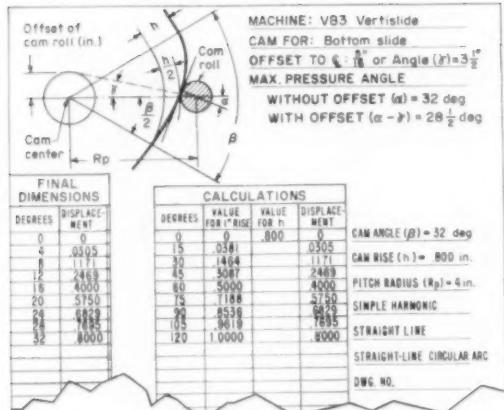

Fig. 7. Cam chart for four-slide forming operation shown in Fig. 3. This is used by cam designer.
where h = maximum stroke (inches), R_p = distance from the center of the cam roll to the cam axis at half stroke (inches), and f = cam factor. The dimensions β , h and R_p are graphically defined in the drawing at the top of Fig. 7.
Step 5. Tabulate final cam profile dimensions, *Fig. 7*, as a basis for layout and manufacture of the cam.
Step 2—Cam Data: The table in *Fig. 4* lists the slides in order of their motions. Except for the knockout pin, the maximum cam stroke h for each slide is taken from the operating layout in *Fig. 3*. The dimension C is the distance between cam roll and the center line of the cam shaft when the slide is in the extreme forward position (closed). As shown in *Fig. 7*, the dimension R_p is the distance between the cam roll and the centerline at the middle of the stroke ($C - \frac{1}{2}h$).
Step 5—Profile Calculation Table: After completing the cam chart, the tool engineer can calculate and record actual dimensions of the cam profile for cutting, as has been done in Fig. 7 for the bottom slide. The time required to make these calculations can be reduced considerably with the help of cam profile tables published by a number of sources. A more convenient method in many cases may be to lay out a greatly expanded drawing of the cam profile.